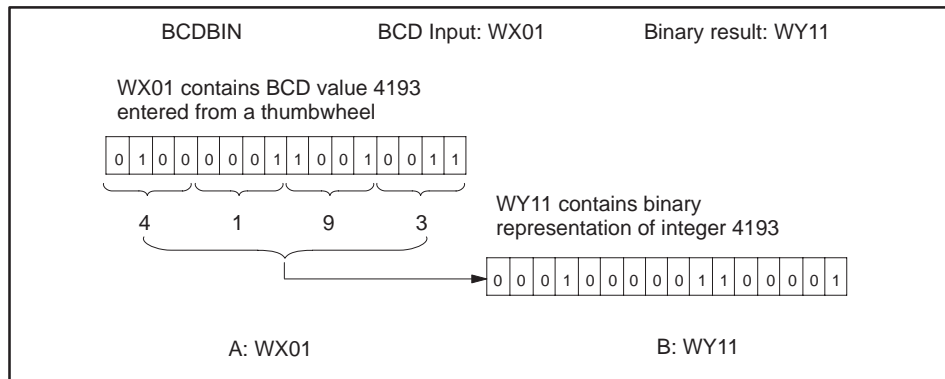

Figure 7-6 Example of BCDBIN Operation
**BCDBIN Operation** The operation of BCDBIN is described below and illustrated in Figure 7-6.